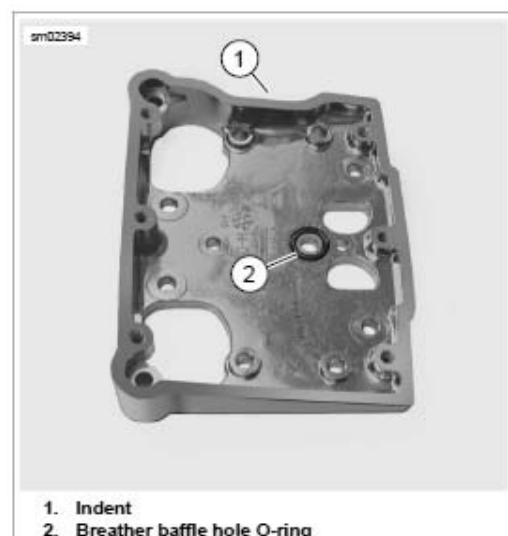

Figure 3-82. Rocker Housing Alignment
10. See Figure 3-82. With the indent (1) facing forward, place the rocker housing into position aligning the holes in the housing with those in the gasket.
12. See Figure 3-82 previous page, install a O-ring in groove around breather baffle hole in rocker housing.